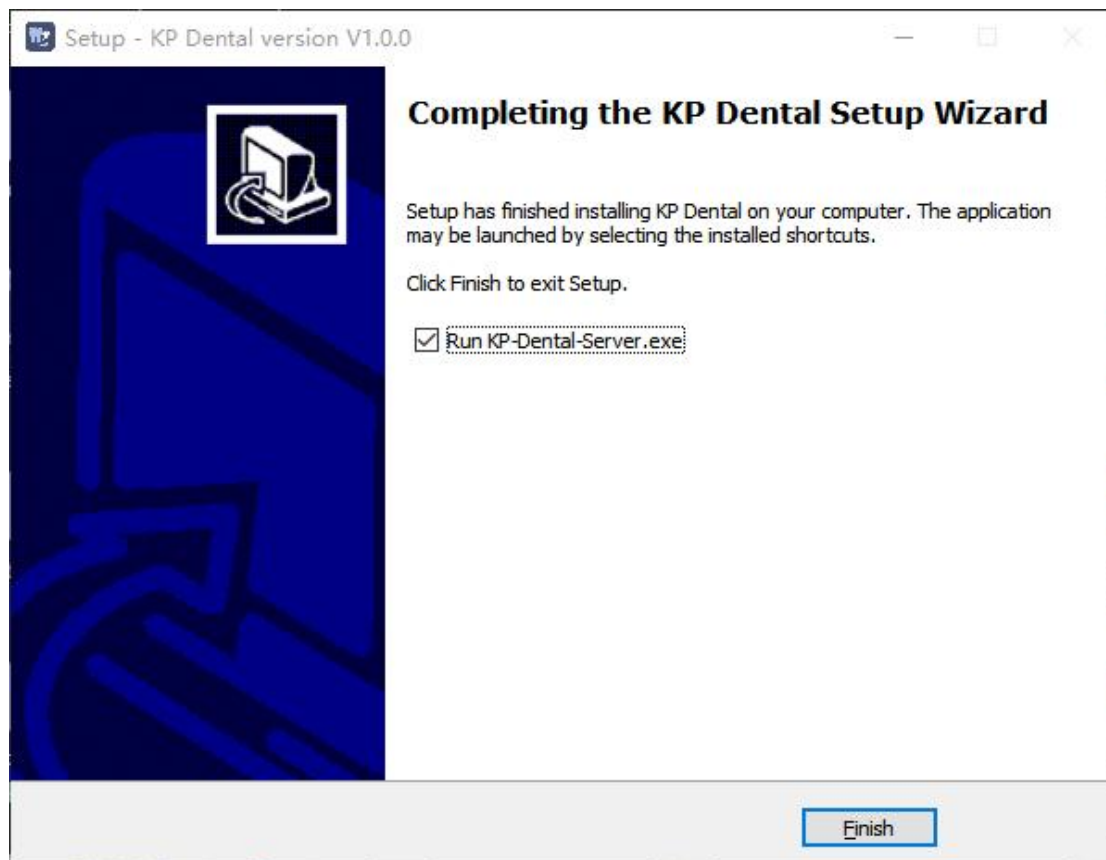

Figure 13
3.1.10 After the software is installed, click the “Finish” button, as shown in Figure 13: